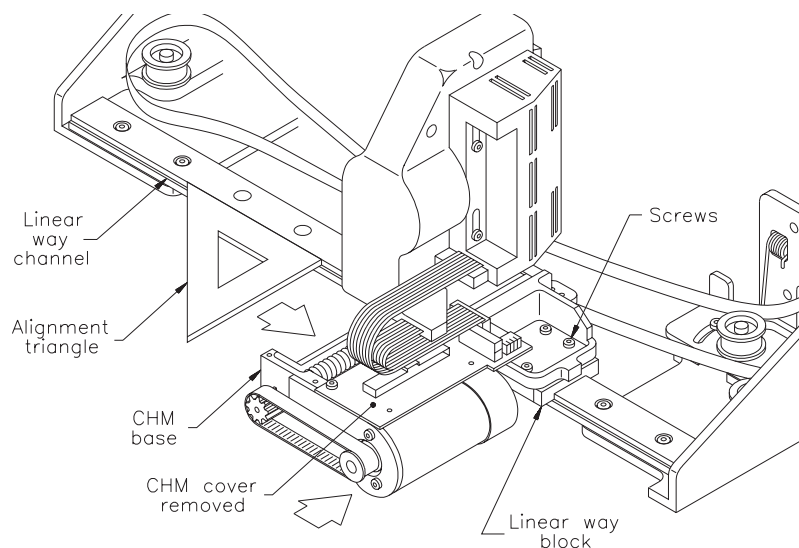

Figure 5 Using the alignment triangle to align the CHM
2. Position the CHM mounting surface squarely on the linear way block (see Figure 5), and insert the four M3 \times 0.50 \times 6 mm screws. Tighten the screws, but leave them loose enough to allow alignment (see below). Do not tighten the screws to torque yet.
3. Locate the alignment triangle included with your replacement CHM. Place one side of the triangle in the linear way channel as shown in Figure 5. Push forward against the base of the CHM to align the base against the linear way block (see arrows in Figure 5). At the same time, push the triangle against the CHM base and adjust the CHM so there is no visible gap between the triangle and the CHM base (make sure the CHM cover is still off).